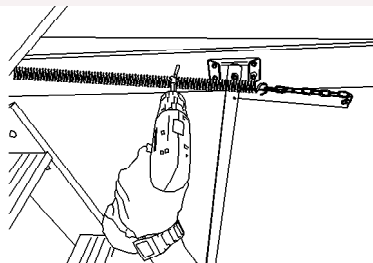

fig. 14
7. With the stairs open screw through the holes you previously drilled in the side frame into the ceiling frame (figure 14). Do not fit tight yet.